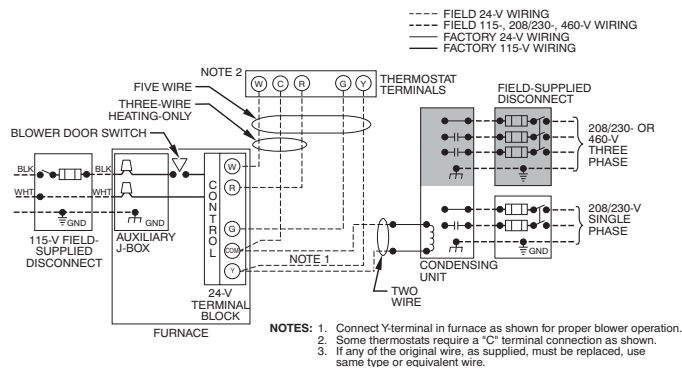

Fig. 32 – Typical Single-Stage Wiring Diagram
See Fig. 32 for field wiring diagram showing typical field 115-V wiring. Check all factory and field electrical connections for tightness.
- Connect power cord power and neutral leads to furnace power leads as shown in Fig. 32.
- Connect field power and neutral leads to furnace power leads as shown in Fig. 32.
Make field 24-V connections at the 24-V terminal strip. See Fig. 37. Connect terminal Y as shown in Fig. 32 for proper cooling operation. Use only AWG No. 18, color-coded, copper thermostat wire.